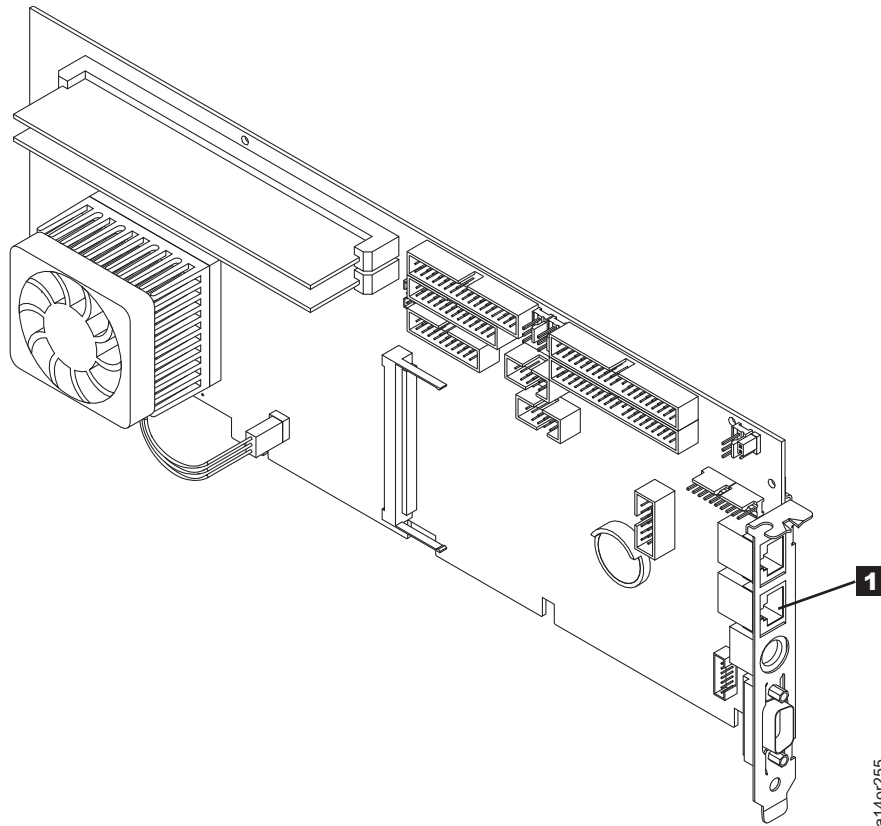

Figure 49. Plug Ethernet cable here (3494). Notice Item 1.
1. See Figure 49 on page 40. Ensure that an Ethernet connection has been completed between the 3494 ATL or 3953 SBC card port 1 (lower port) and a port on one of the TSSC Ethernet switches. The Ethernet cable should plug into the bottom port (Item 1 in Figure 49 on page 40). The SBC card is in slot 3 of the 7581.